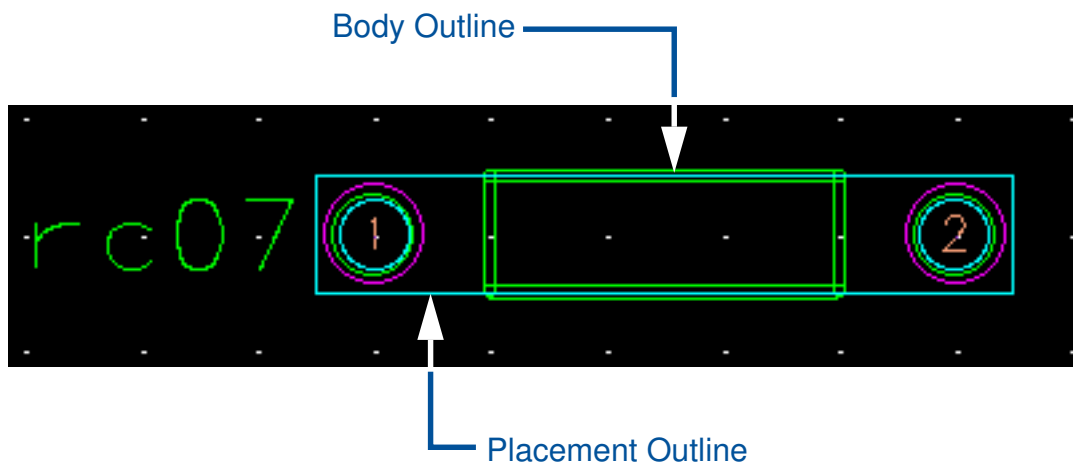
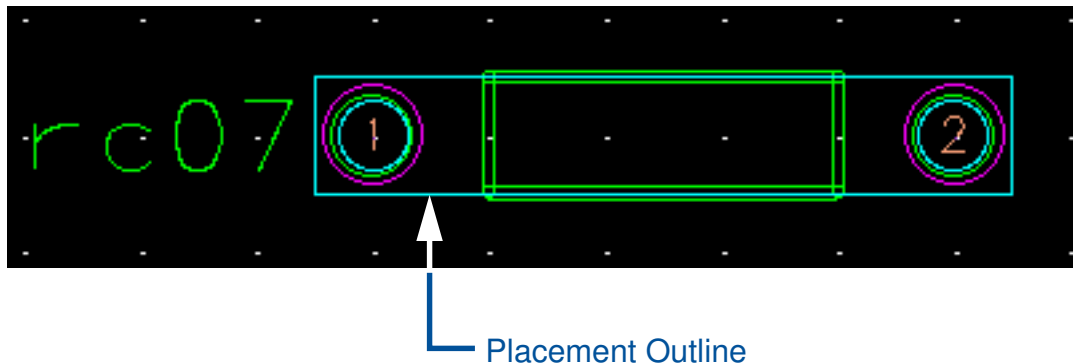

Figure 3-13. Resistor Body and Placement Outlines
Figure 3-16. Resistor Placement Outline Added
In the next few steps, you add the body outline and placement outline as shown in Figure 3-13.
To complete this geometry you need to add a Placement Outline. The Placement Outline indicates to the Board Station tools the overall area a geometry requires during placement. The Placement Outline is automatically added to both place layers. In a later lab, when you place components on the board, the placement outline is used by LAYOUT to check for placement errors, such as component placement outlines overlapping. The size of the placement outline is very close the actual size of the component, or be slightly oversized. Refer to Figure 3-13 or Figure 3-16 for an illustration of the Placement Outline.
18. When the prompt bar is displayed, place the cursor where you will create the first corner of the placement outline, as shown in Figure 3-16, and click the Select mouse button. Click the Select mouse button once at the second corner of the placement outline, and once at the third corner. Finally, either double-click the Select mouse button at the final corner of the outline, *or* click once on the final corner of the outline and **OK** the prompt bar. **Cancel** the prompt bar if it repeats.